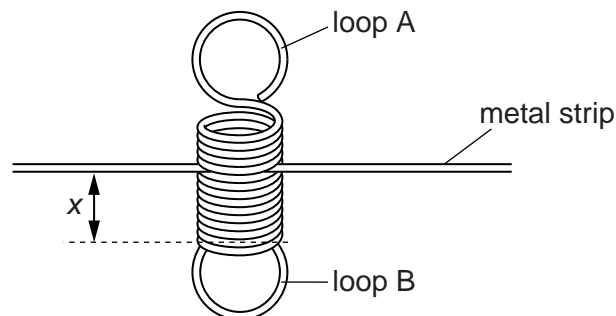

Fig. 2.2
- (b) (i) Place the metal strip through the spring as shown in Fig. 2.2.